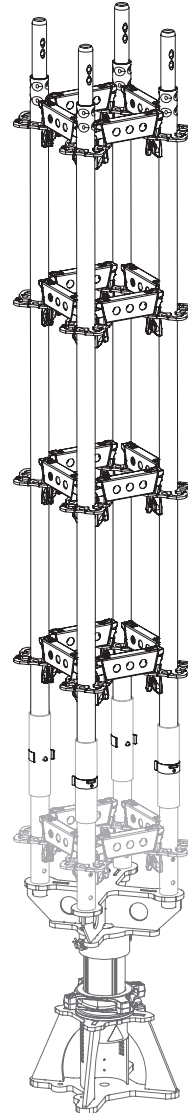

Fig. A1.05
4. Insert pre-assembled standard arrangement, see Section "B4 Materials list" on page 64, into Base Standards UVB and secure with locking pins. (Fig. A1.05)